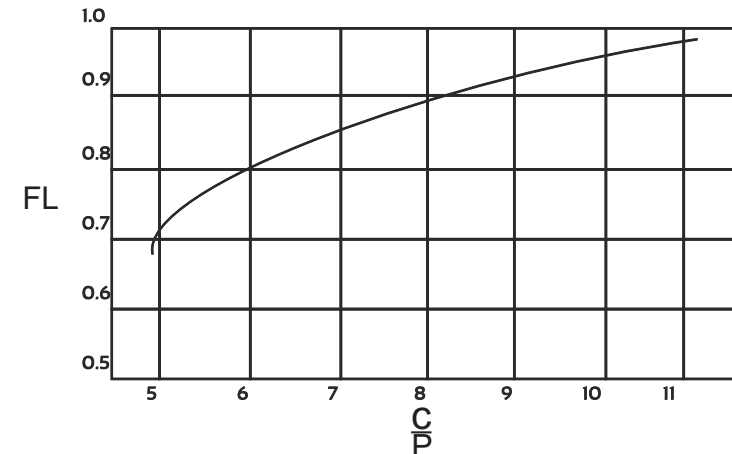

Fig. 7.1 Value of adjustment factor FL depends on bearing load
From fig.7.1 adjusted load (FL) is 0.98